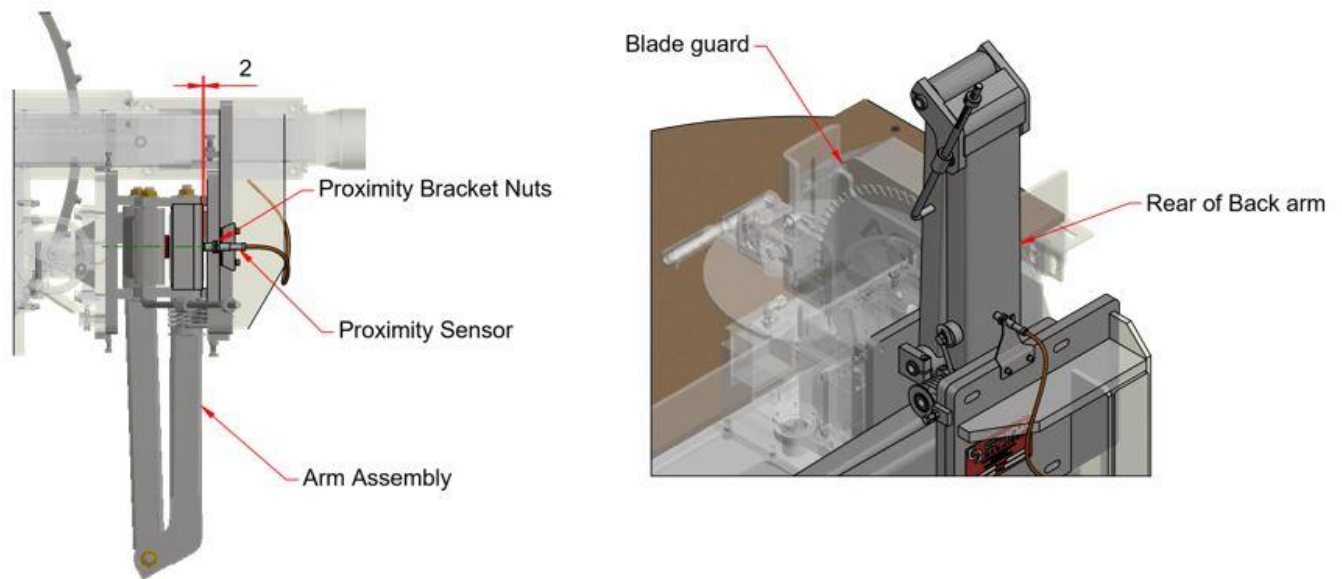

Figure 19, Arm Assembly proximity sensor configuration
- Ensure that the proximity sensor is located in the middle of the back arm as shown in Figure 19.